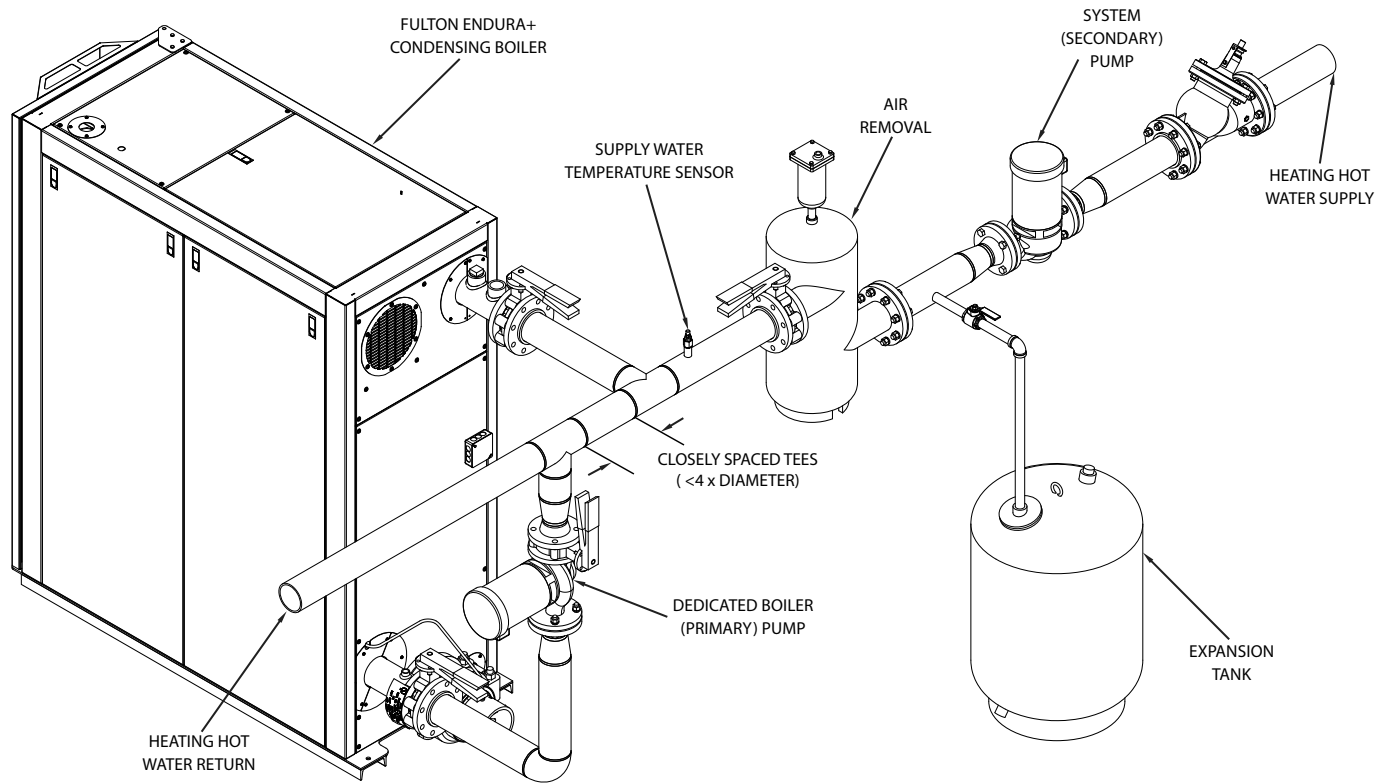

FIGURE 6 - SAMPLE PIPING LAYOUT, PRIMARY - SECONDARY PIPING; SINGLE BOILER
It is acceptable to install the Endura+ boiler in a primary-secondary arrangement, although this arrangement is not required. See Figures 6 and 7. Primary-secondary arrangements are used to decouple the water flow of the primary (boiler) loop from the secondary (system) loop. Temperature mixing occurs in the shared piping region.
1. See Table 3 for required natural gas pipe size, based on overall length of pipe from the meter plus equivalent length of all fittings. Approximate sizing may be based on 1,020 BTU for 1 cubic foot of natural gas. See Figures 6 and 7 for piping arrangements.